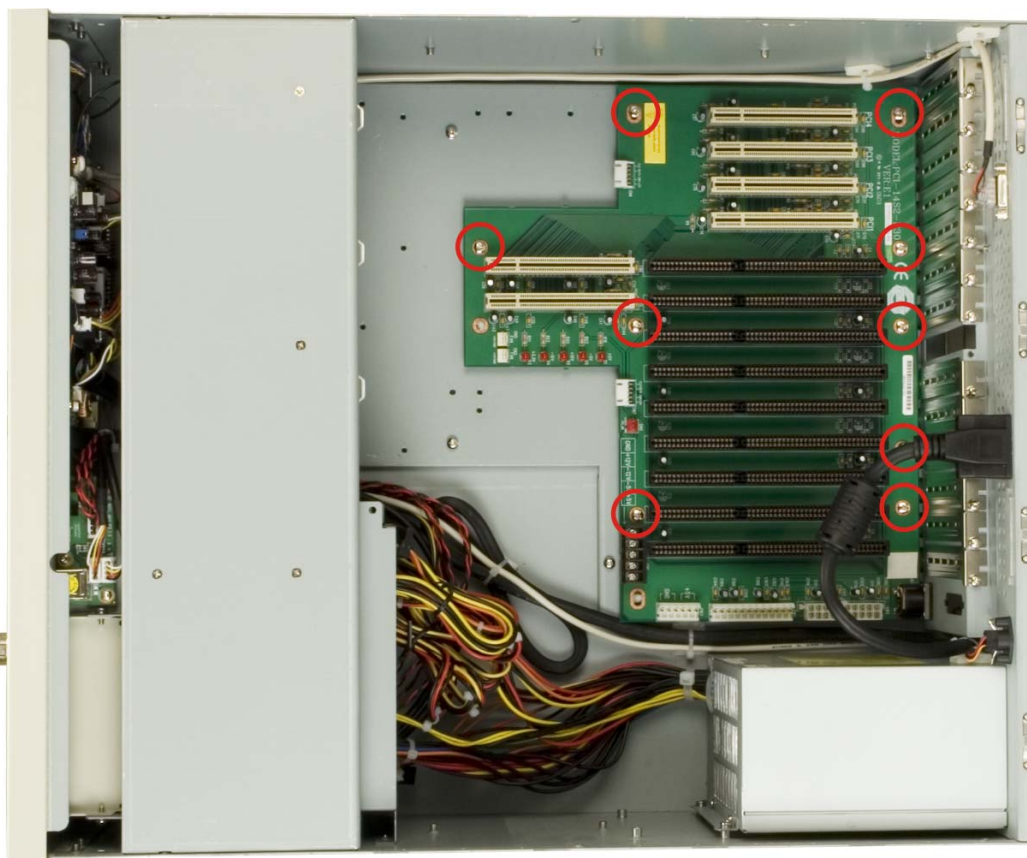

Figure 4-12: Backplane Retention Screws
- Step 4:** Insert retention screws to secure the backplane to the chassis (**Figure 4-12**)